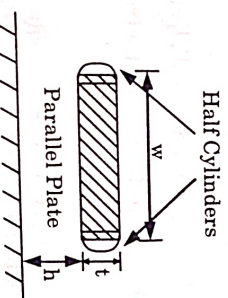

Fig. 2.2.2. Yuan and Trick capacitance model including fringing fields.
4. The fringing capacitance is more complicated to compute. One intuitively appealing approximation treats a lone conductor above a ground plane as a rectangular middle section with two hemispherical end caps, as shown in Fig. 2.2.2.